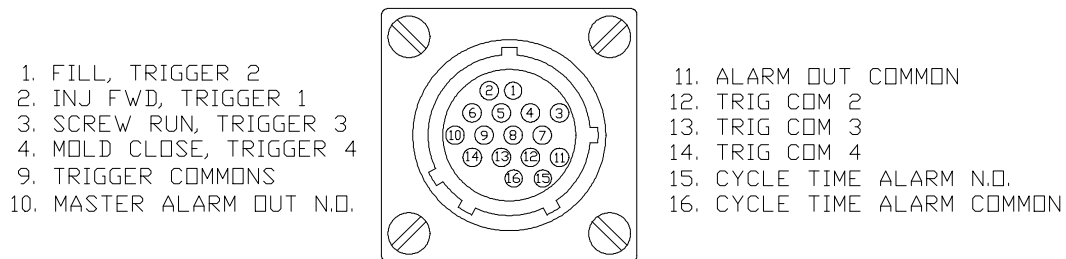

**Figure 6**
The connector pinout is shown in Figure 7. The voltage inputs are tapped off of the machine's sequence solenoids as shown in Figure 6. The conventional trigger inputs available from most molding machines consist of: (1) Injection Forward (or Injection Total) signal, (2) Fill (or Boost) signal, (3) Screw Run (4) Mold Closed (or Mold Open) signal.
The voltage inputs are tapped off of the machine's sequence solenoids as shown in Figure 6. The conventional trigger inputs available from most molding machines consist of: